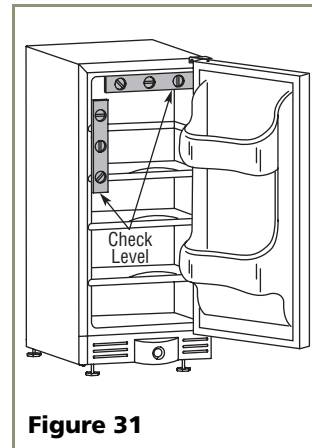

Figure 31
1. Use a level to check the levelness of the refrigerator from front to back and from side to side. Level should be placed along top edge and side edge as shown (see **Figure 31**).